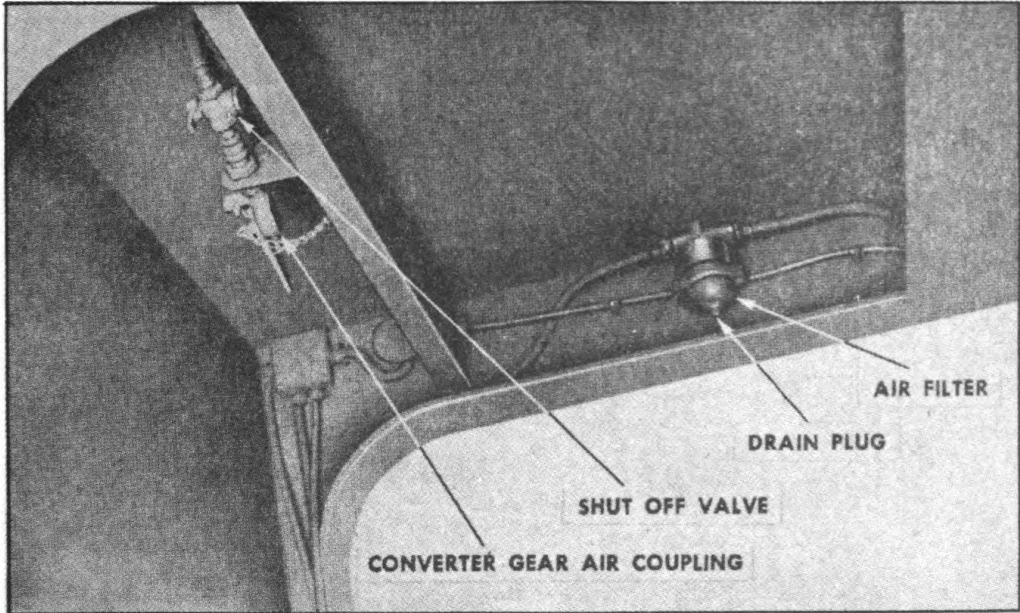
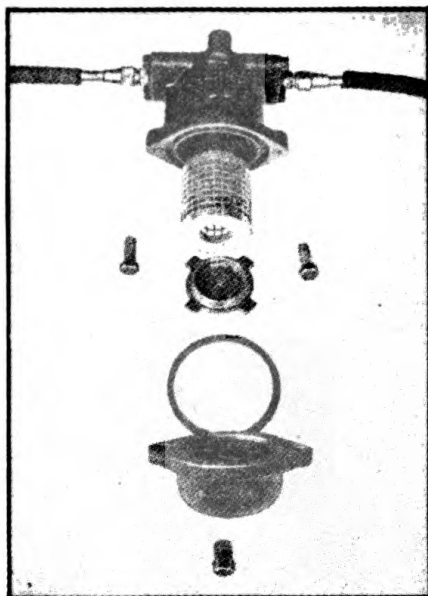

FIGURE 45. AIR FILTER
FIGURE 46. AIR FILTER—DISASSEMBLED
17. AIR FILTER.—*a. Function* (Figure 45).—Air filters are mounted on inside of main frame side rails, just ahead of drop in frame, one filter in service line and one in emergency line. Filter is designed to remove dirt, water, and oil from air, thereby increasing the life of the functional parts of the emergency relay valve.
c. Disassembly.—(1) Disconnect the lines leading into the filters. Remove the two bolts holding filter to bracket.
(2) Remove the two cap screws (1) holding cup (2) to upper section of filter. Tap down on cup, separating cup from upper section.
(3) Remove rubber gasket (3); remove cleaner seat (4) and pull out cleaner (5) (Figure 46).